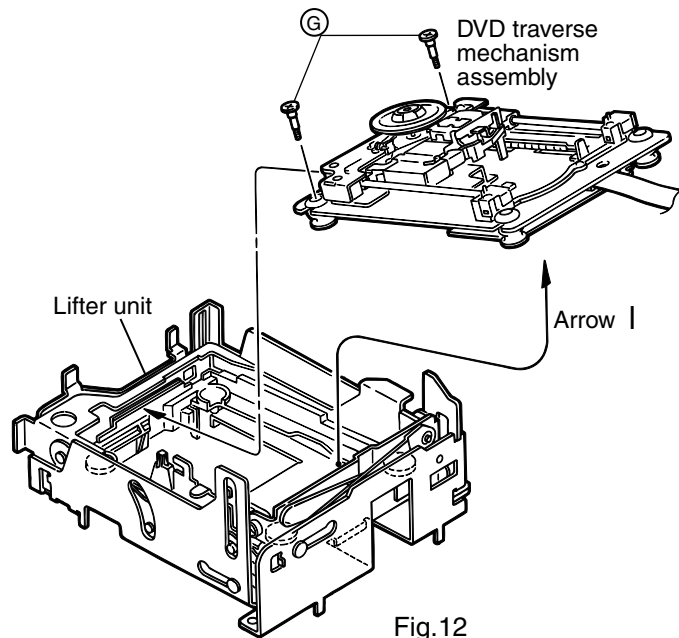

Fig.12
3. Remove the DVD traverse mechanism assembly in the arrow direction **l** from the lifter unit (See Fig. 12)